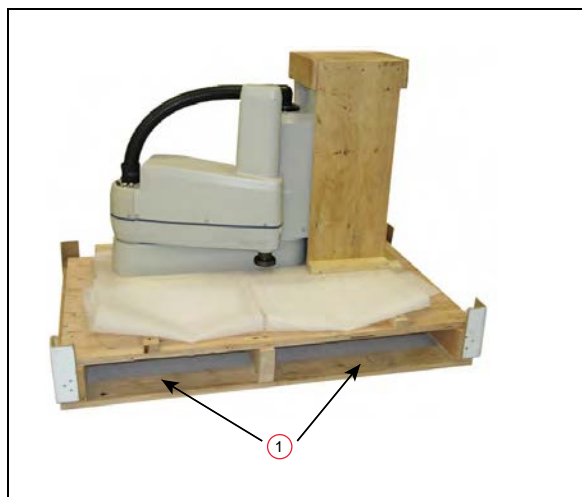

Figure 3-5. Pallet Lifting Device (1) Insertion Point
3. Remove the four screws on top of the wooden robot base protection box. See Figure 3-5.